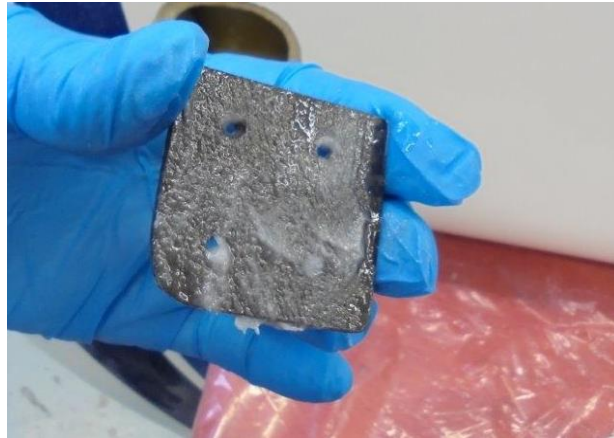

Figure 6: Thickened resin applied to CFRP repair plate
7.1.15 Apply thickened resin to the repair plate and to bonding area, refer to Figure 6.
- 7.2.14 Apply thickened resin to the repair plate and to bonding area, refer to Figure 6.